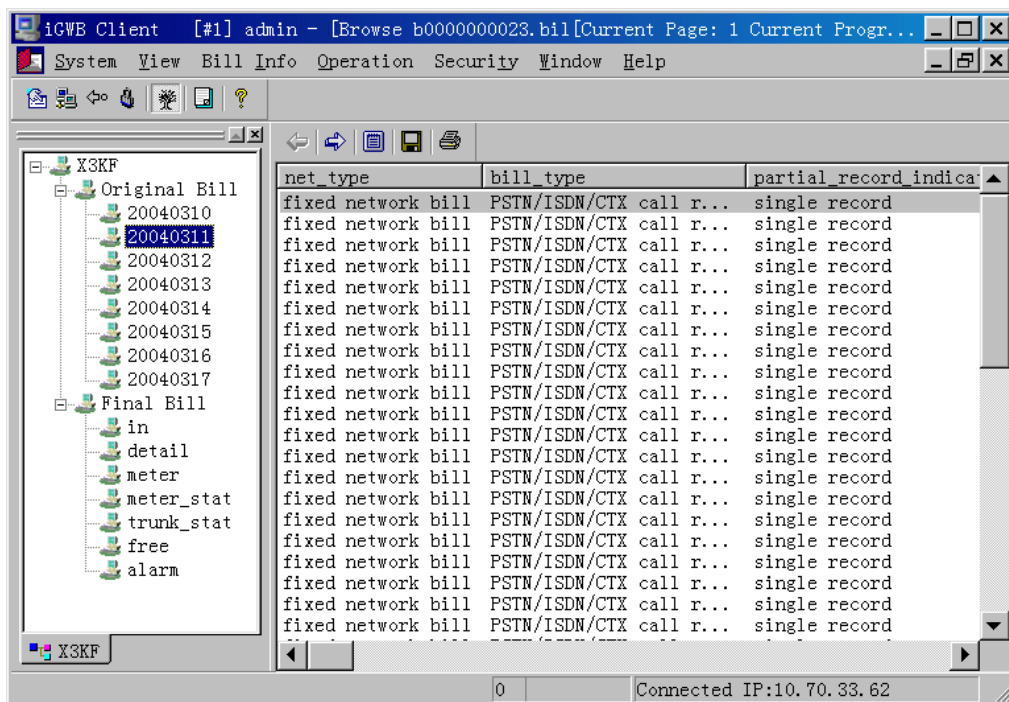

Figure 3-10 CDR list window
- 3) Select a desired CDR format. All the CDRs in the selected format in the original CDR files are displayed, as shown in Figure 3-10. If the CDRs are displayed in more than one page, right-click and select [Next Page] to view other pages.
In the CDR list window as shown in Figure 3-10, select the CDR to be printed. Select [Bill Info/Print], or click the  icon in the toolbar of the CDR browse window to print the selected CDR.